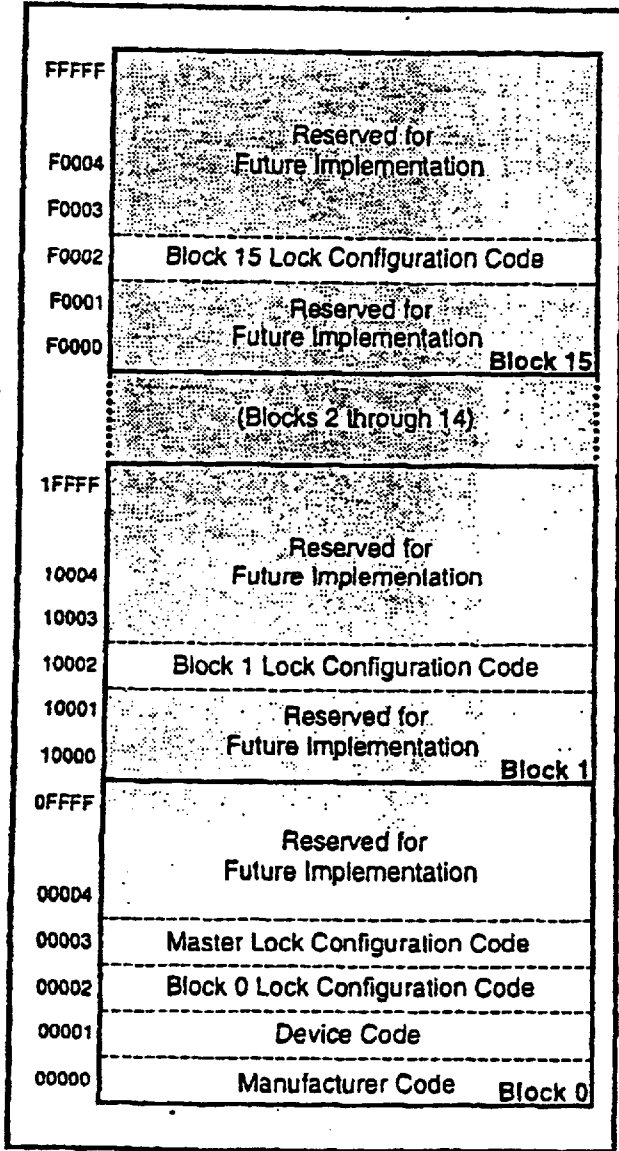

Figure 5. Device Identifier Code Memory Map
The read identifier codes operation outputs the manufacturer code, device code, block lock configuration codes for each block, and the master lock configuration code (see Figure 5). Using the manufacturer and device codes, the system CPU can automatically match the device with its proper algorithms. The block lock and master lock configuration codes identify locked and unlocked blocks and master lock-bit setting.
IA=Identifier Code Address: see Figure 5.
The identifier code operation is initiated by writing the Read Identifier Codes command. Following the command write, read cycles from addresses shown in Figure 5 retrieve the manufacturer, device, block lock configuration and master lock configuration codes (see Table 5 for identifier code values). To terminate the operation, write another valid command. Like the Read Array command, the Read Identifier Codes command functions independently of the V_{PP} voltage and RP# can be V_{IH} or V_{HH} . Following the Read Identifier Codes command, the following information can be read:
1. X selects the specific block lock configuration code to be read. See Figure 5 for the device identifier code memory map.